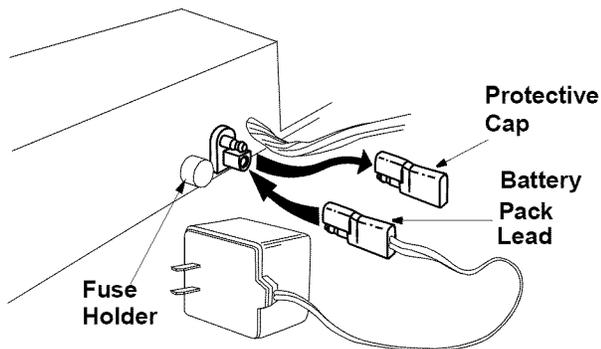

Figure 12
- Remove the protective cap from the end of the battery pack lead. **Always plug charger lead into battery pack lead first, and then insert battery charger plug into 120 volt standard household outlet.** See Figure 12 for location. Follow this order of action every time you charge the battery.
- The unit is equipped with an in-line fuse. If the unit fails to start, check the fuse inside the battery cover by turning the end of the fuse holder and removing from the battery cover. Replace with standard automotive 7-1/2 amp fuse. Refer to Figure 12.